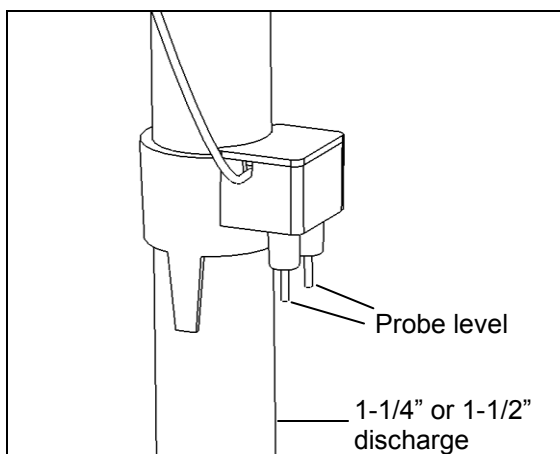

Figure 1
1. The water sensor for the ALM-P1 was designed to be installed directly onto a pump discharge pipe. The clamp will only fit onto 1-1/4" or 1-1/2" pipe. See figures 1 and 2.